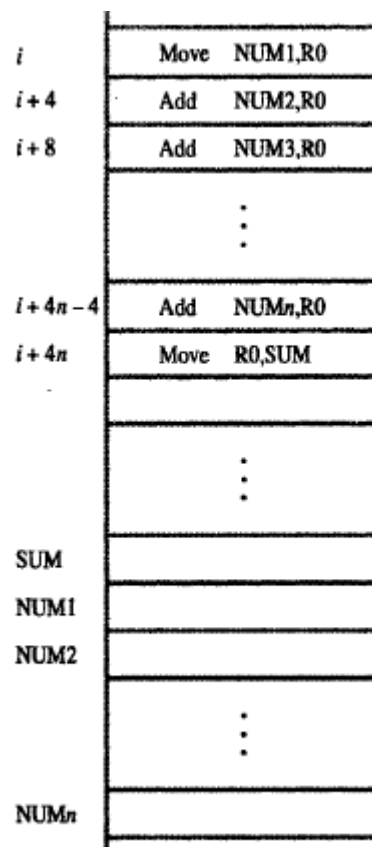

Figure 2.9 A straight-line program for adding n numbers.
- Consider the program for adding a list of n numbers (Figure 2.9).